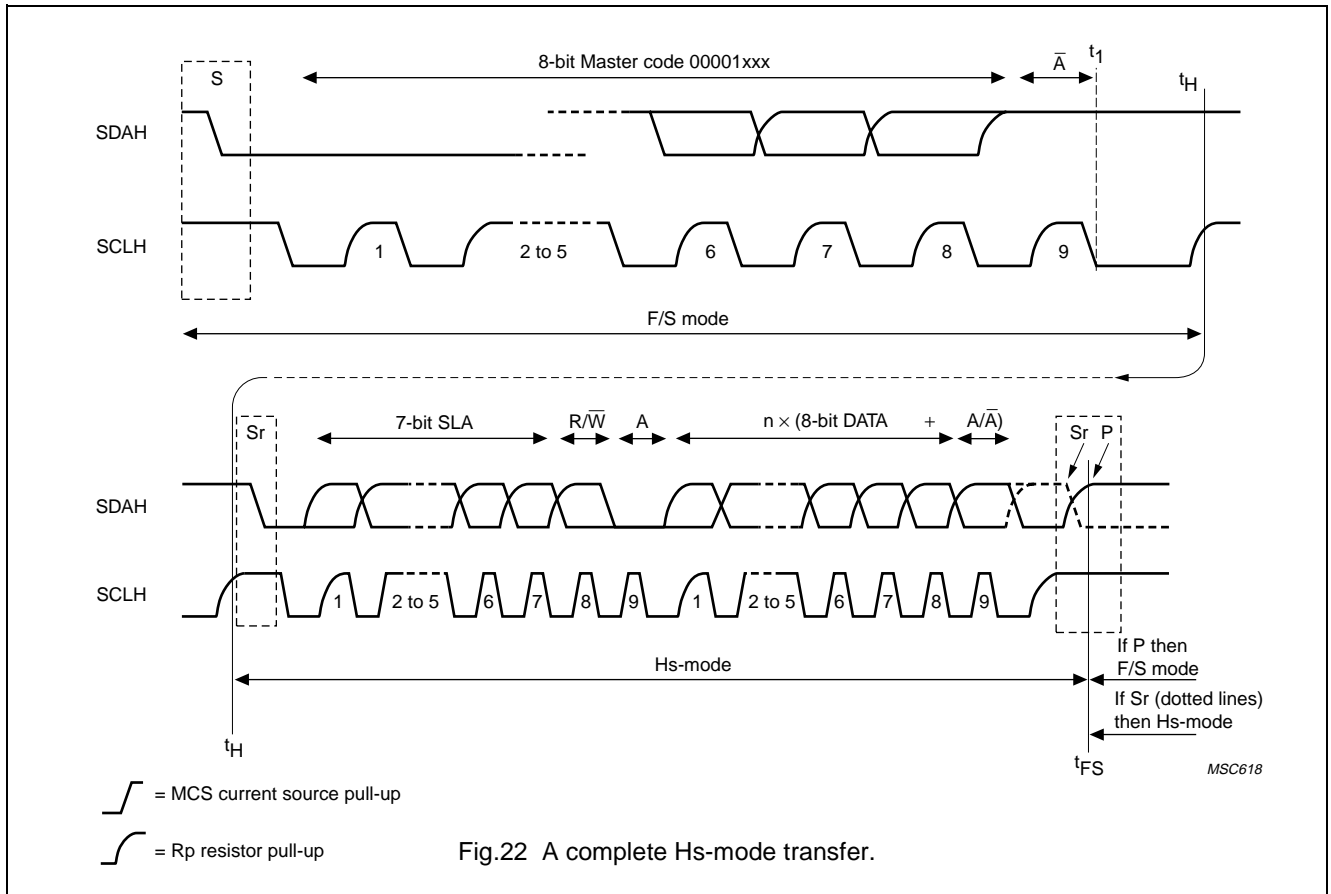

Fig.22 A complete Hs-mode transfer.
After the not-acknowledge bit (\bar{A}), and the SCLH line has been pulled-up to a HIGH level, the active master switches to Hs-mode and enables (at time t_H , see Fig.22) the current-source pull-up circuit for the SCLH signal. As other devices can delay the serial transfer before t_H by stretching the LOW period of the SCLH signal, the active master will enable its current-source pull-up circuit when all devices have released the SCLH line and the SCLH signal has reached a HIGH level, thus speeding up the last part of the rise time of the SCLH signal.
Before time t_1 in Fig.22, each connected device operates in Fast-mode. Between times t_1 and t_H (this time interval can be stretched by any device) each connected device must recognize the “S 00001XXX \bar{A} ” sequence and has to switch its internal circuit from the Fast-mode setting to the Hs-mode setting. Between times t_1 and t_H the connected master and slave devices perform this switching by the following actions.
At time t_{FS} in Fig.22, each connected device must recognize the STOP condition (P) and switch its internal circuit from the Hs-mode setting back to the Fast-mode setting as present before time t_1 . This must be completed within the minimum bus free time as specified in Table 5 according to the Fast-mode specification.